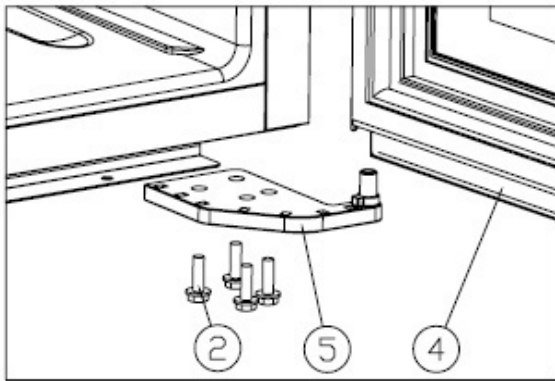

Figure 2
- ✧ Unscrew the M5\*16screws (2), dismantle the right lower hinge (5). [Figure 2]